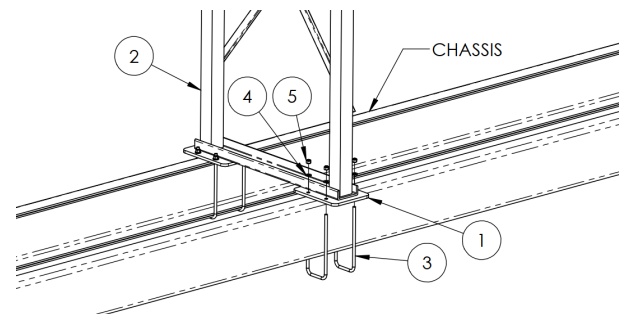

Figure 1.7
If desired, gantry frames can be mounted to the chassis with customer supplied U-bolts. Position the two supplied U-Bolt mounting plates (1) on the top of the chassis frame rails. Lower the gantry frame onto the U-Bolt mounting plates and center between the 4 holes. Install two u-bolts (3) on each side and fasten with grade 8 flat washers (4) and nylon locknuts (5) as shown in Figure 1.7.